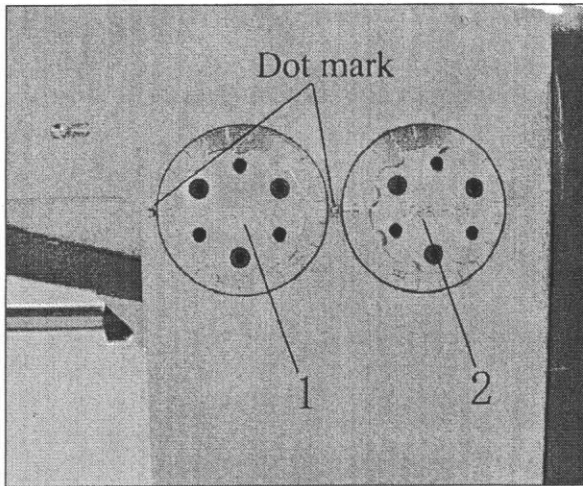

Fig.6
3.5 Adjustments setting of stitch length and bending rate (Fig.6)